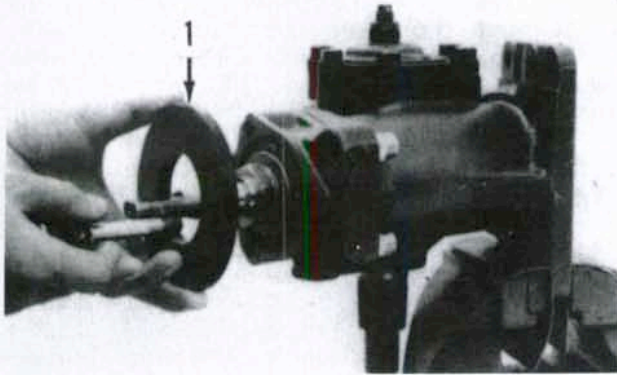
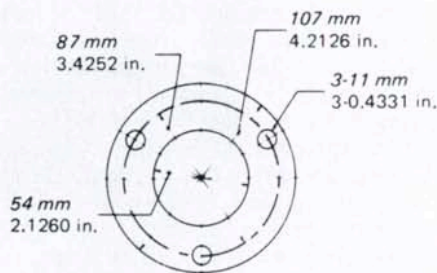

Fig. 36—Install special mounting plate (1) to retain ball nut and thrust bearings while tightening worm shaft locknut. See Fig. 36A.
Fig. 36A—Mounting plate can be fabricated using dimensions shown.
Reassemble steering unit by reversing the disassembly procedure. Be sure to align "P" marks on valve spool (5—Fig. 35) and valve housing (2). Position ball nut and worm shaft assembly, valve housing assembly and thrust bearings into steering gear housing, then install special mounting plate (1—Fig. 36) to retain components in housing. (Special plate can be fabricated using dimensions shown in Fig. 36A.) Turn worm shaft clockwise, tighten locknut hand tight and stake locknut threads with a pin punch. Install sector shaft and tighten side cover mounting cap screws to 40-55 N·m (30-40 ft.-lbs.) torque. Remove